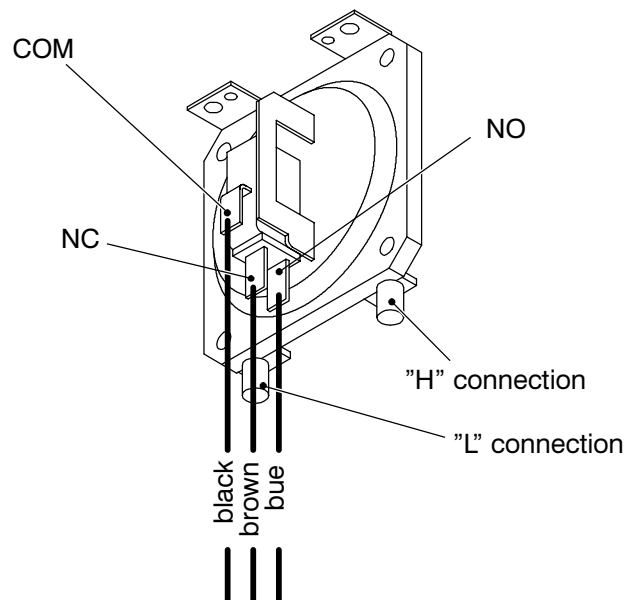
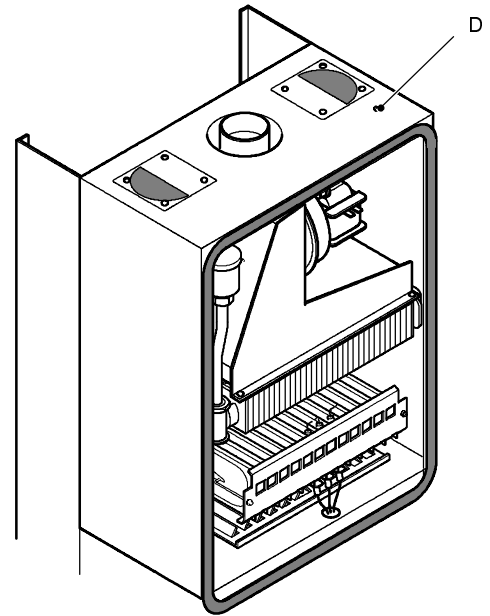

fig. 72b
fig. 74
- 4 Unscrew the screw *D* (two for the pressure switch of fig. 72b) which holds the air pressure switch to the frame (fig. 74);